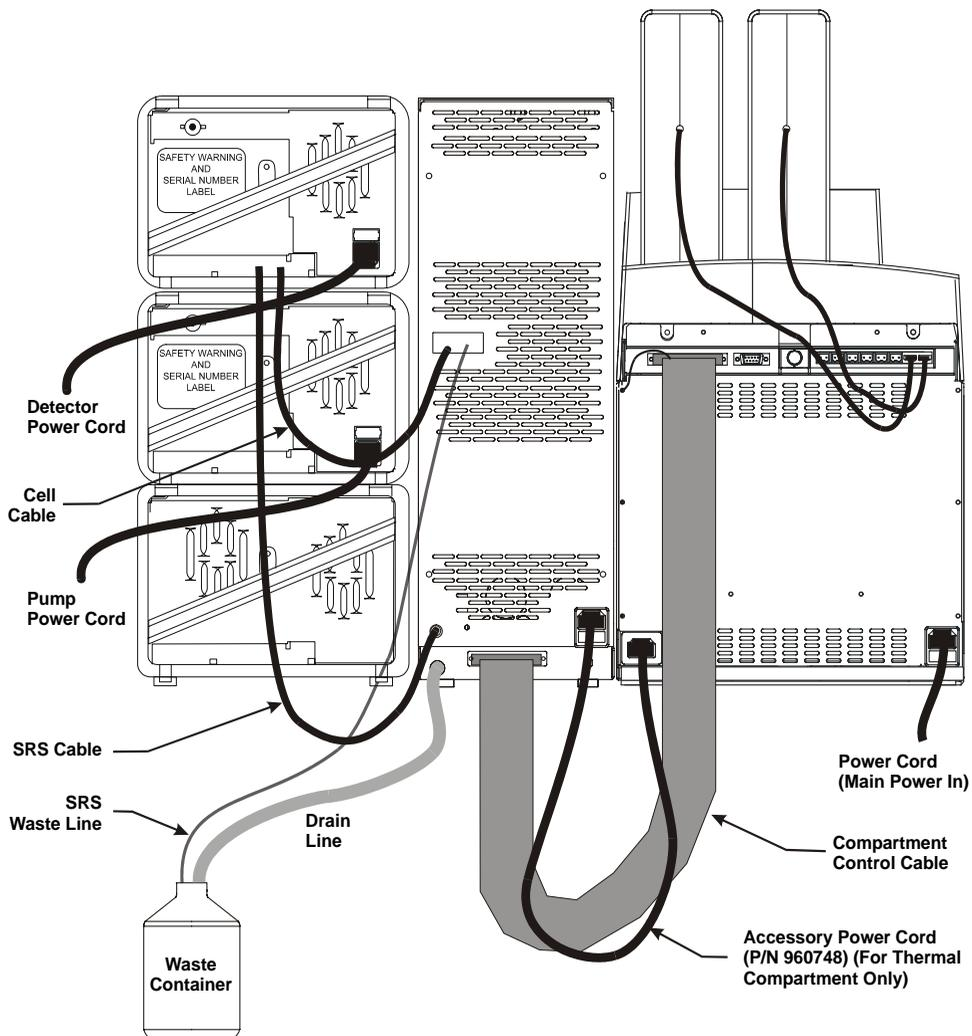

Figure B-38. Rear Panel Connections to a Chromatography or Thermal Compartment (Conductivity Detection System Shown)
2. Place the end of the waste line in a waste container (see Figure B-38).
Refer to Figure B-38 when completing the following steps.
2. Connect the accessory power cord (P/N 960748) to the Accessory Outlet on the AS50 rear panel (see Figure B-38).